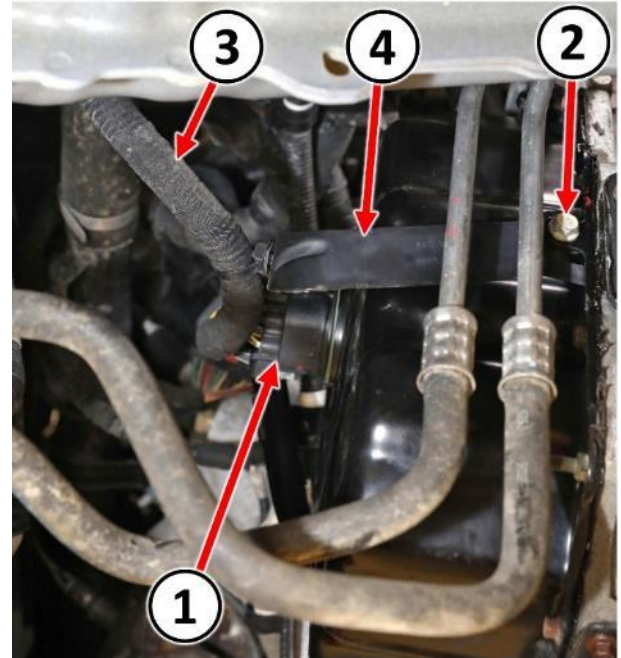

Figure 9 – Electrical Connector
15. Disconnect the solenoid pack electrical connector (1) at valve body oil pan (Figure 9).
16. Remove the bolt (2) securing the wire harness bracket (4) to the transmission then position the wire harness (3) and bracket (4) aside (Figure 9).